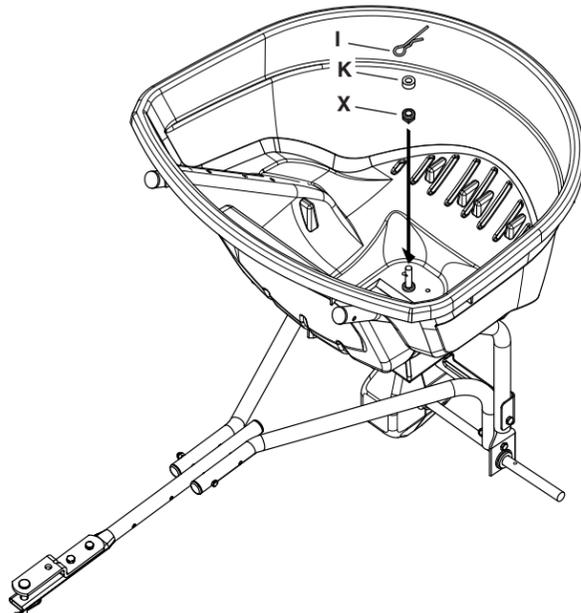

Figure 7
STEP 7: (SEE FIGURE 7)
- Slide the hopper bushing (X) onto the spreader shaft and insert it into the bottom of the hopper.
- Slide the spacer (K) onto the spreader shaft.
- Install the agitator hairpin (I) in the spreader shaft.